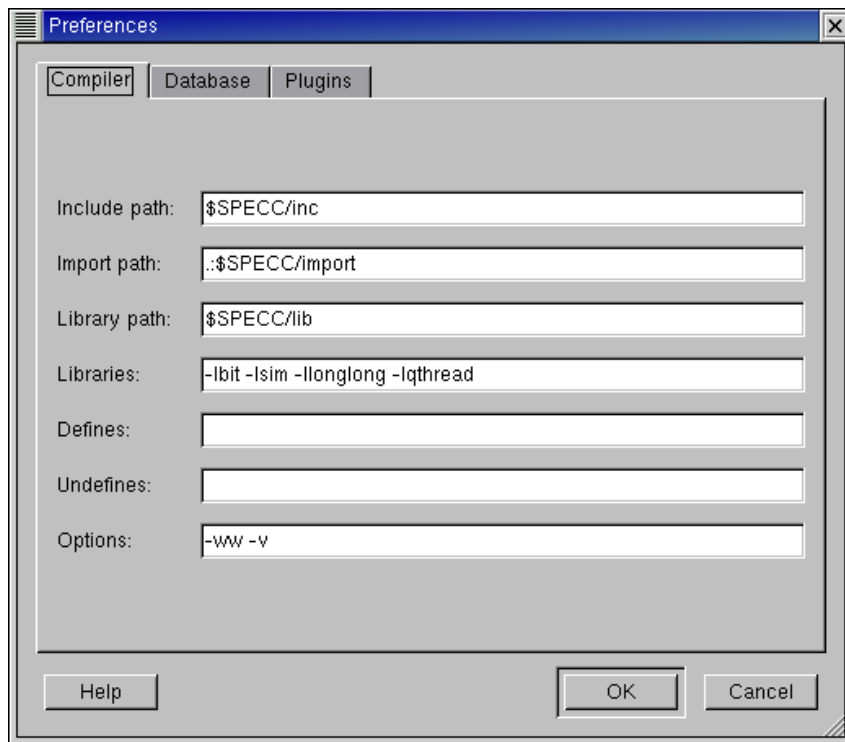

Figure 14: Edit Preferences dialog (Compiler tab).
Operation Preference editing allows viewing and setting of the application settings of SCE. Users start editing the preferences of SCE by selecting *Main :: Edit* \Rightarrow *Preference*. This will pop-up the Edit Preferences dialog, which allow users to browse and specify the compiler and database settings. The Edit Preferences dialog is illustrated in Figure 14.
- (a) The Compiler tab allows viewing and editing of compiler settings. The screenshot for Compiler tab is shown in Figure 14. The Compiler tab contains line edit boxes